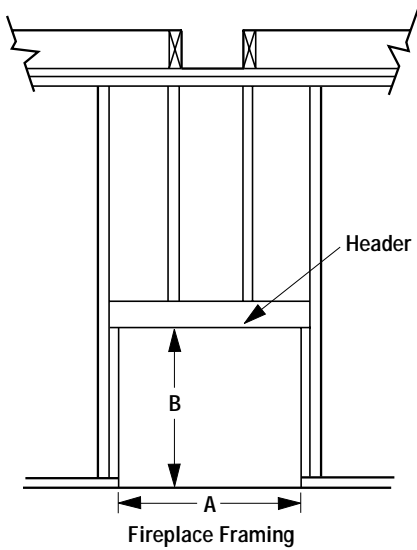

Figure 4
Step 1. Construct the Appliance Framing - Frame appliance enclosure as illustrated in *Figures 4 through 7 on page 5*.